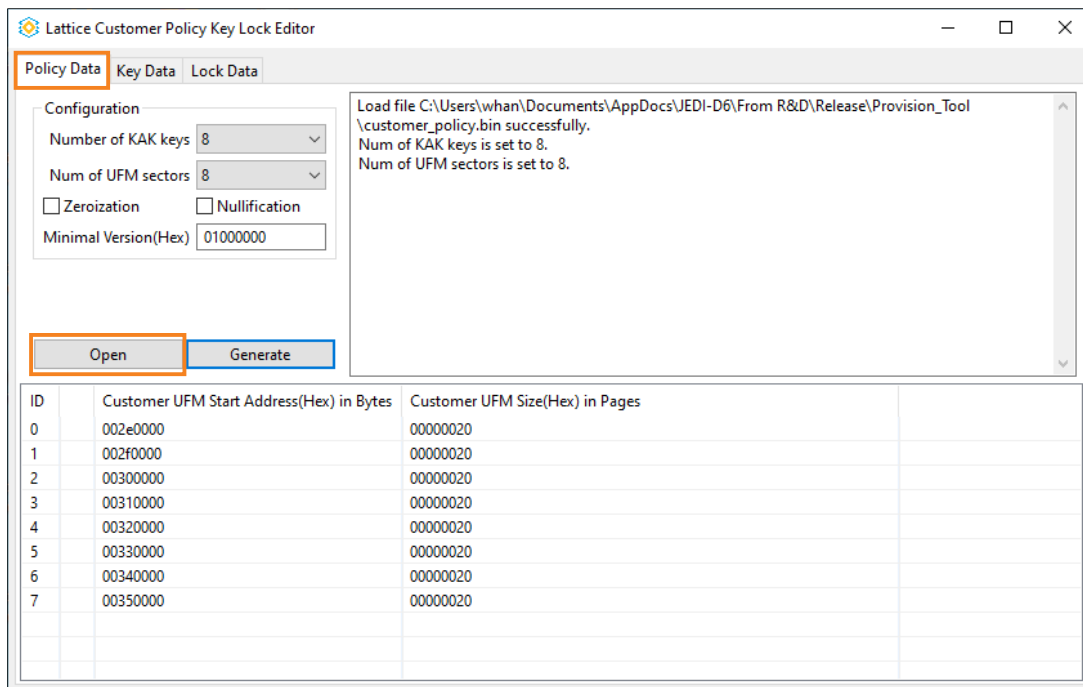

Figure 2.3. Generating the Policy Data
2. If the user needs to modify the existing policy data, click the **Open** button to open the policy data file to get the current setting. Figure 2.3 shows the example settings in the Policy Data tab.